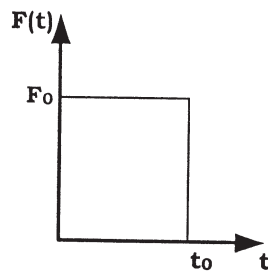

Fig. 2
- Q3) a)** Use the concept of step response to calculate the response $x(t)$ of an undamped single degree of freedom system to a rectangular pulse as shown in Fig. 2. [15]